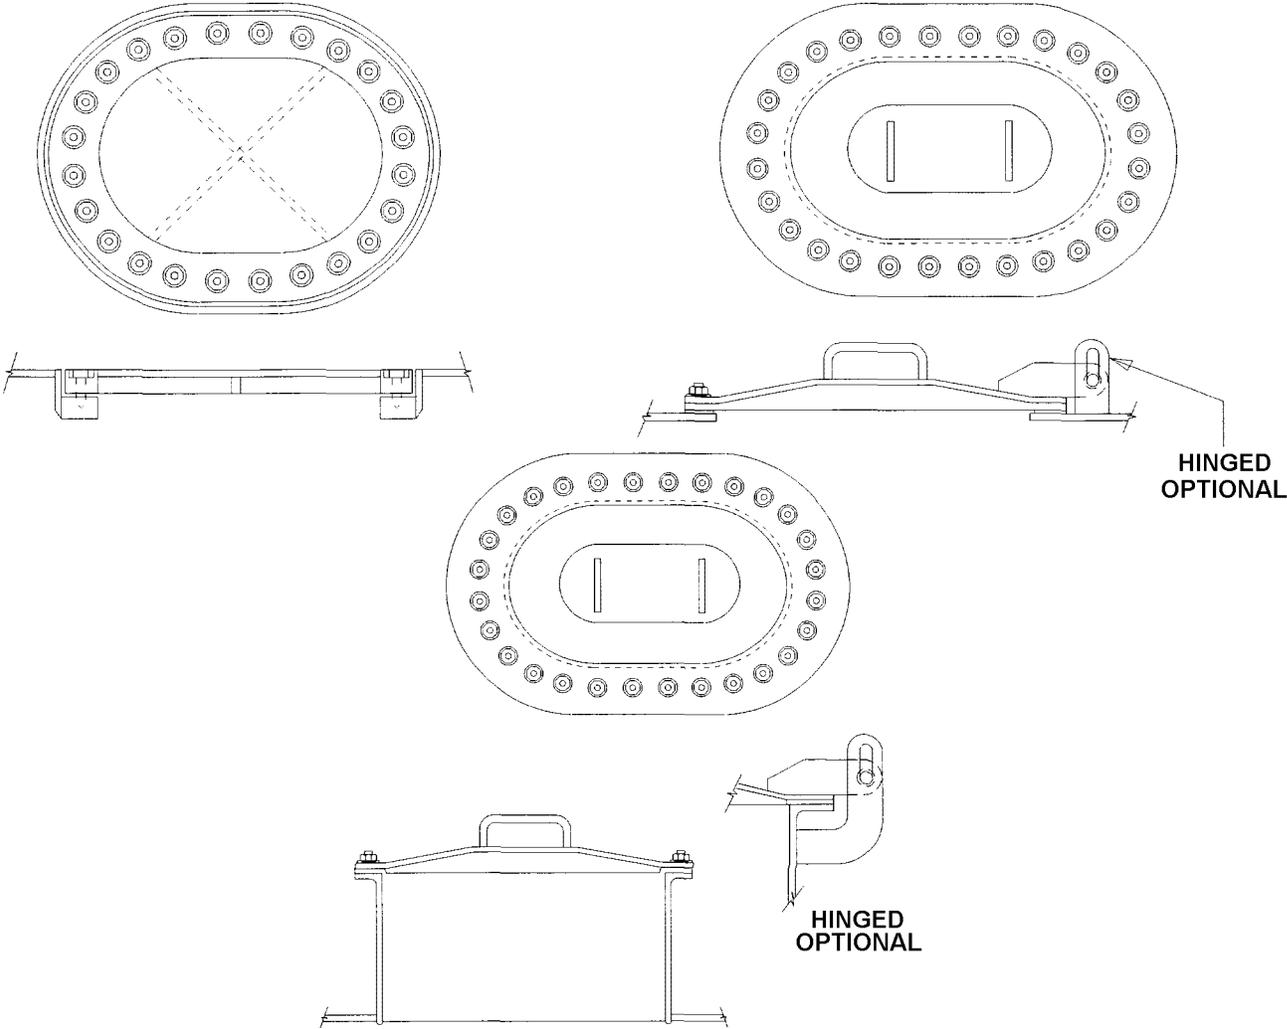

Figure 1-12. Watertight Manhole Cover
- k. Manhole Covers. (See figure 1-12.) Manhole covers provide access to tanks, voids, and cofferdams. These covers provide watertight and oiltight integrity. These spaces need to be accessed periodically for inspection or repair.